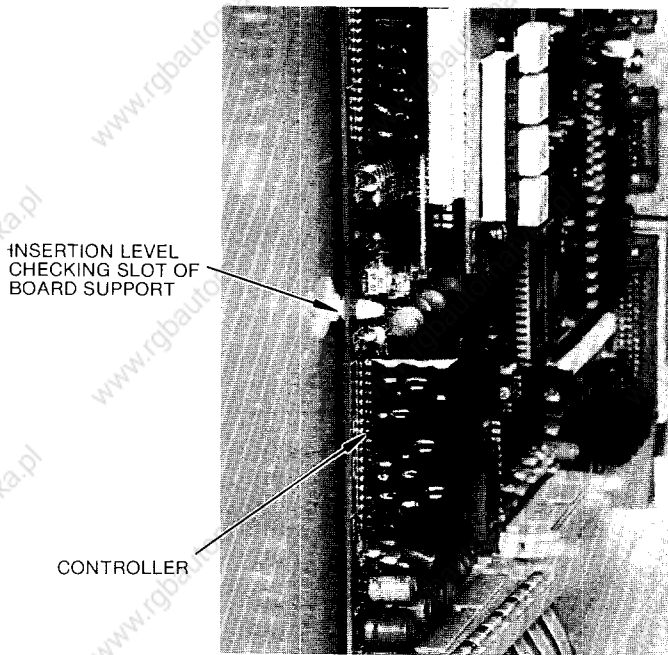

Fig 13.3 Controller Mounting
1. Insert the control circuit board in PCB supports until it comes fully to the checking groove in the supports. (See Fig. 13.3.)
(1) Removal Procedures (Fig. 13.3).